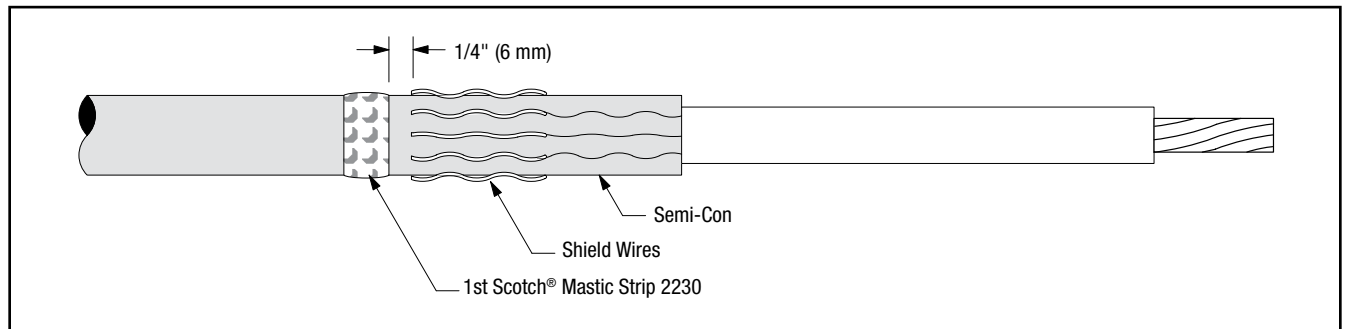

Figure 19
- 13.1 Select a Scotch® Mastic Strip 2230 from kit and remove white release liners. Using light tension apply a **SINGLE WRAP** of mastic around the cable semi-conductive jacket 1/4" (6 mm) from shield wires (Figure 19). Cut off excess.